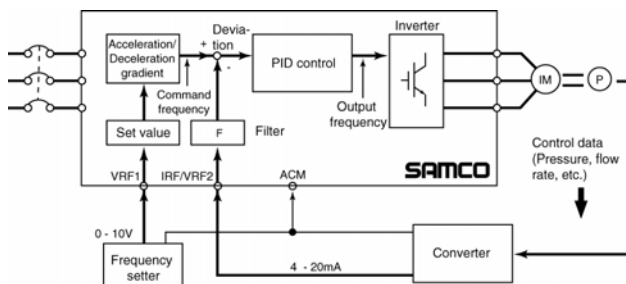

Figure 7.1
- Figure 7.1 shows a basic example of using the PID control function. (This example assumes both command and feedback signals are analog signals.)
- When the feedback signal is likely to contain noise, adjust the time constant of the feedback input filter (Cd125). “F” in Figure 7.1 indicates a filter.
- The set value is entered in the form of a frequency from the operation panel or the external analog input. Figure 7.2 shows how a set value (frequency) is determined for the pressure converter in Figure 7.1.
(1) Read the Y-axis value (Is) of a point on the P-I line at which the vertical line passing through X = Pset intersects.
(2) Read the X-axis value (Fset) of a point on the F-I line at which the horizontal line passing through Y = Is intersects. The Fset value is the set frequency.
(3) Enter this frequency value from the operation panel or the external analog input.